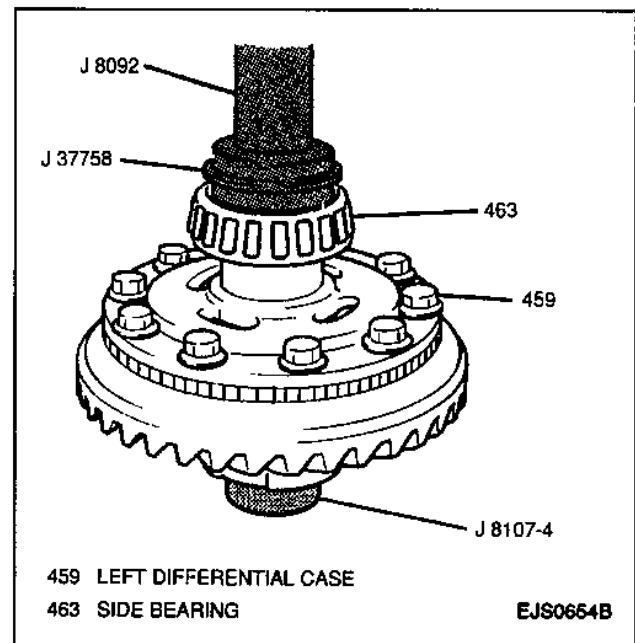

Figure 65—Installing Left Differential Side Bearing
8. Left differential side bearing to the left side of the differential case assembly using a J 37758 with a J 8092 and a J 8107-4 (Figure 65). Place the differential case assembly on a hydraulic press with a J 8107-4 for support and to protect the right differential side bearing. Then, using the J 37758 with the J 8092, place the left differential side bearing on the left differential case with the taper side up and slowly press the left differential side bearing evenly onto the left differential case.